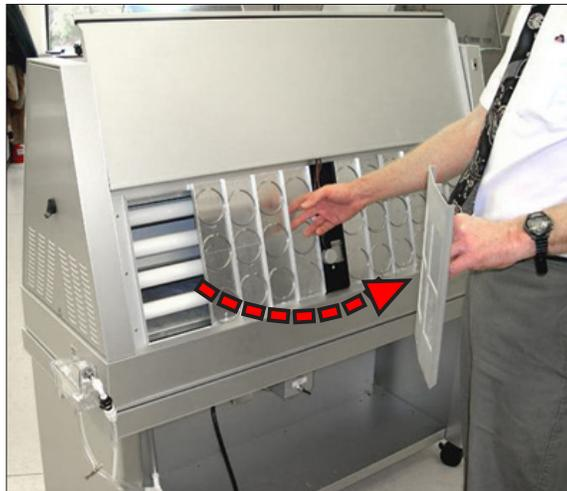

Figure 12.4a: Remove two panels from left end.
- Shut off the QUV and remove the two panel holders on the left end (Figure 12.4a).